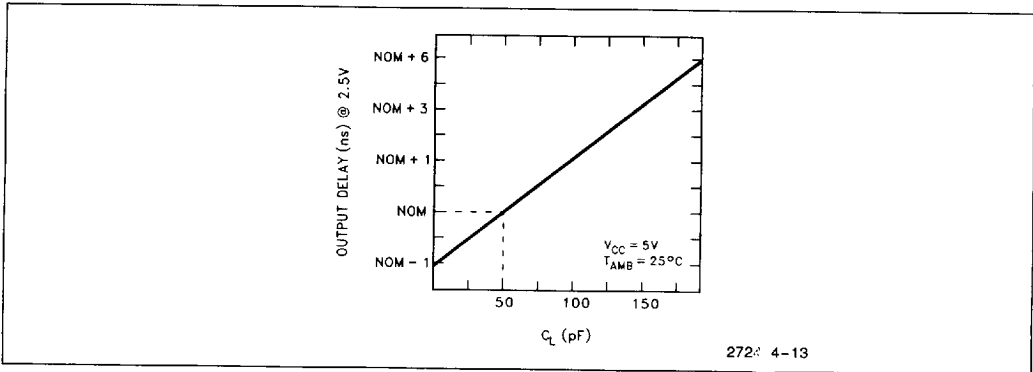

Figure 14. Typical Output Delay Variations versus Load Capacitance
- Specified for a 50 pF load, see Figure 14 for capacitive derating information.